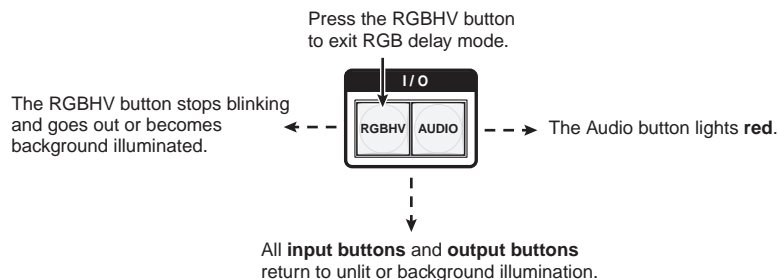

Figure 3-41 — Deselect RGB Delay mode
5. Press and release the RGBHV button (figure 3-41).